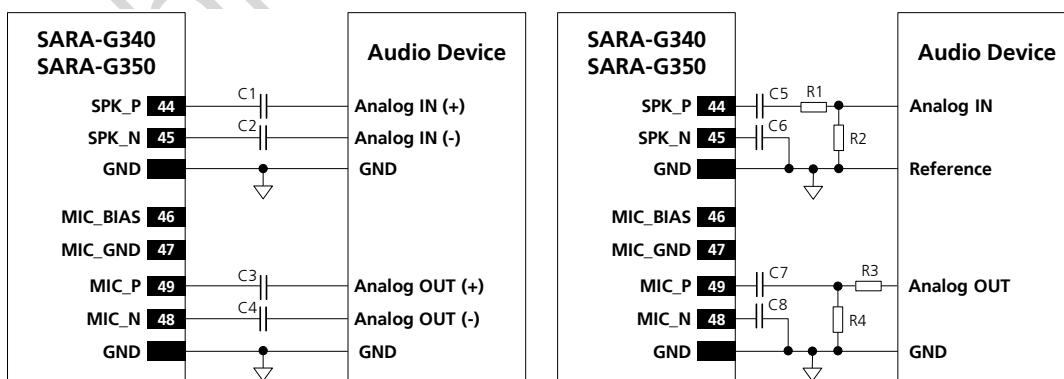

Figure 77: Application circuits to connect the module to audio devices with proper differential or single-ended input/output
Figure 77 and Table 43 describe the application circuits, following the suggested circuit design-in.
- The **SPK\_P / SPK\_N** balanced output of the module must be connected to the differential input of the external audio device by means of series capacitors for DC blocking (e.g. 10  $\mu$ F) to decouple the bias present at the module output, as described in the left side of Figure 77
- A proper differential to single ended circuit must be inserted from the **SPK\_P / SPK\_N** balanced output of the module to the single ended input of the external audio device, as described in the Figure 77 right side: 10  $\mu$ F series capacitors are provided to decouple the bias present at the module output, and a voltage divider is provided to properly adapt the signal level from module output to external audio device input
- The **MIC\_P / MIC\_N** balanced input of the module must be connected to the differential output of the external audio device by means of series capacitors for DC blocking (e.g. 10  $\mu$ F) to decouple the bias present at the module input, as described in the Figure 77 left side
- A proper single ended to differential circuit has to be inserted from the single ended output of the external audio device to the **MIC\_P / MIC\_N** balanced input of the module, as described in the Figure 77 right side: 10  $\mu$ F series capacitors are provided to decouple the bias present at the module input, and a voltage divider is provided to properly adapt the signal level from the external audio device output to the module input
- The signal levels can be adapted by setting gain using AT commands (see u-blox AT Commands Manual [3], +USGC, +UMGC), but additional circuitry must be inserted if **SPK\_P / SPK\_N** output level of the module is too high for the audio device input or if the audio device output level is too high for **MIC\_P / MIC\_N**, as the voltage dividers present in the circuits described in the Figure 77 right side to properly adapt the signal level